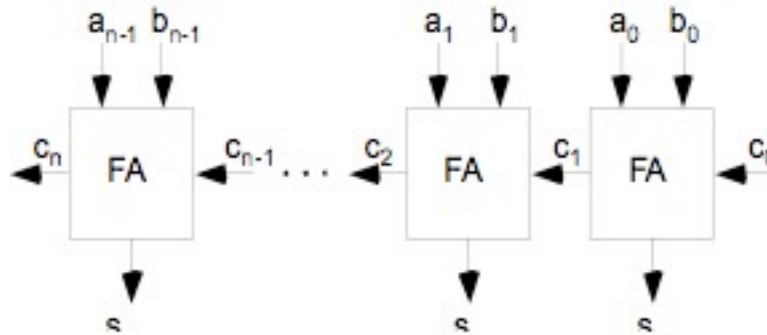

Figure 2. N-bit Ripple-carry Adder Block Diagram
A *full adder* (FA) has inputs  $a$ ,  $b$  and  $c_i$  (carry in) and produces outputs  $s$  (sum) and  $c_o$  (carry out). An  $n$ -bit ripple-carry adder can be designed by connecting full-adders in a chain, as shown in Figure 2.